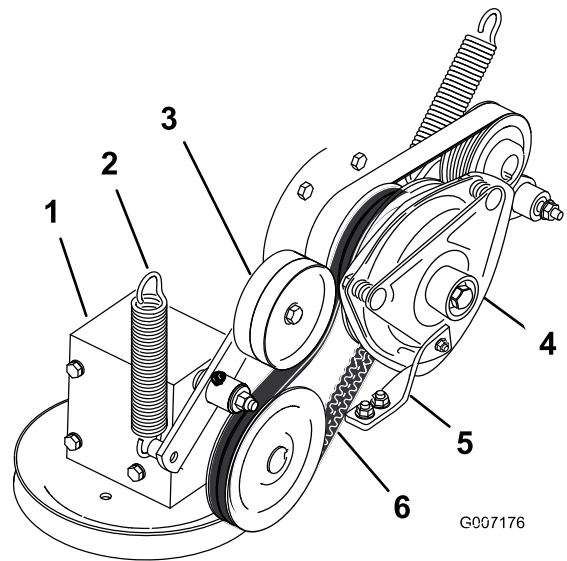

Figure 69
4. Remove the spring from the idler arm (Figure 69).
7. Install the PTO drive belt around the clutch pulley and the gearbox pulley (Figure 69).
9. Install the spring to the idler arm (Figure 69).